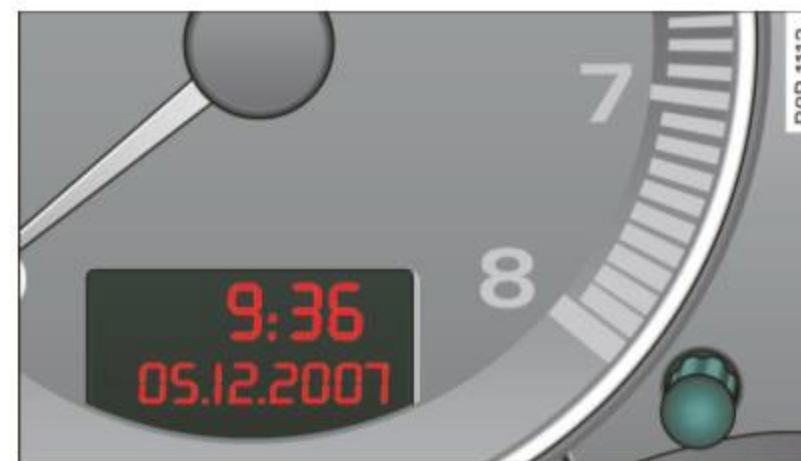

Fig. 21 Section of the instrument cluster: button
- Briefly press the button in the instrument cluster ⇒ fig. 21. The odometer and the digital clock are now illuminated. ▶
- Briefly press the button in the instrument cluster ⇒ *page 34*, fig. 21. The odometer and the digital clock are now illuminated.